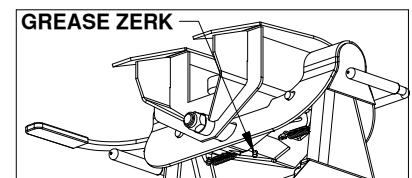

FIGURE H1: View under saddle.
- Grease the saddle through the grease zerk approximately every six months with multi-purpose grease. this allows the coupler to pivot freely, see figure H1